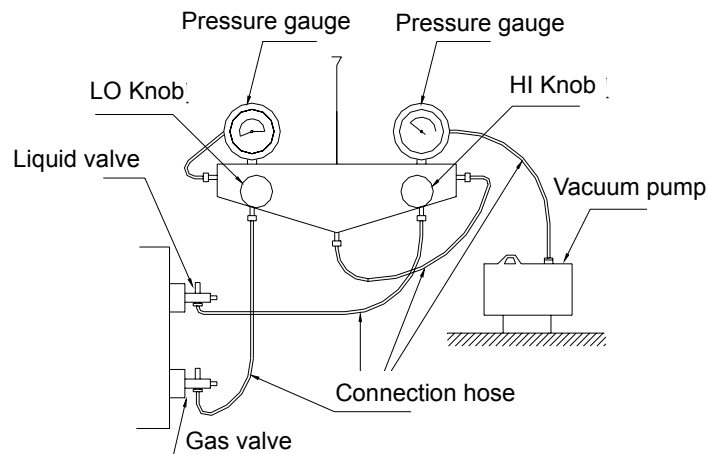

Fig. 3-1-7
- i) If possible, it is best to discharge the air from the valve position by using vacuum pump, as shown in Fig. 3-1-7.